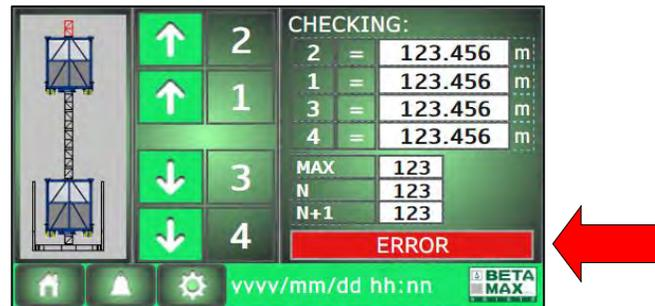

Figure 6.12
If an error in the floor setting has occurred, take note of **(2) and (3) number for max floor recognized “MAX”** in Figure 6.12. Turn the mode key switch to “**PROGRAMMING**” mode and check the recordings of the different floor levels at the floor with error (**N**) and (**N+1**):